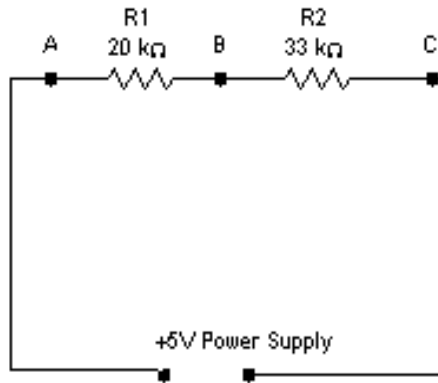

Figure 1
1. Connect the circuit as shown in figure 1, with the supply voltage set to 5volts. Open the circuit at point A and use the multimeter to measure the current at that point.
2. Record in Table 1 the value of the current. Repeat this procedure for points “B” and “C” of figure 1.